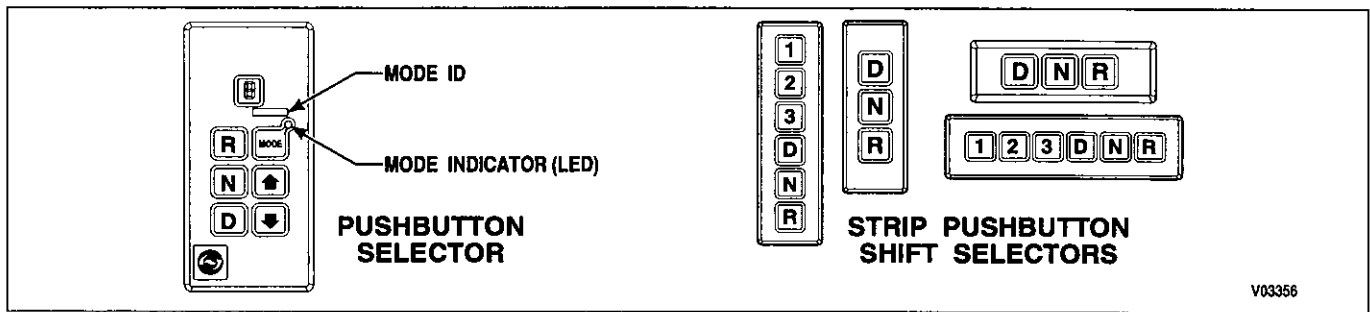

Figure 1-4. Pushbutton Shift Selectors
A. Pushbutton Shift Selector (Figure 1-4)
There is a full-function pushbutton shift selector and a strip pushbutton shift selector. Strip pushbutton shift selectors are used by European OEMs. A full-function shift selector has a **MODE** button and diagnostic display capability through the single digit LED display. The strip pushbutton shift selector does not have a **MODE** button, diagnostic capability, or adjustable illumination. The full-function pushbutton shift selector has six (6) pushbuttons which are **R** (Reverse), **N** (Neutral), **D** (Drive), ↓ (Down), ↑ (Up), and **MODE**. Manual forward range downshifts and upshifts are made by pressing the ↓ (Down) or ↑ (Up) arrow buttons after selecting **D** (Drive). The **N** (Neutral) button has a raised lip to aid in finding it by touch. The **MODE** button is pressed to select a secondary or special operating condition, such as **ECONOMY** shift schedule. Diagnostic information is obtained by pressing the ↑ (Up) and ↓ (Down) arrow buttons at the same time. The strip pushbutton shift selector has either three or six range selection positions as shown in Figure 1-4. When a strip pushbutton shift selector is used, diagnostic information must be obtained by using the Pro-Link® 9000 or a customer-furnished remote display.